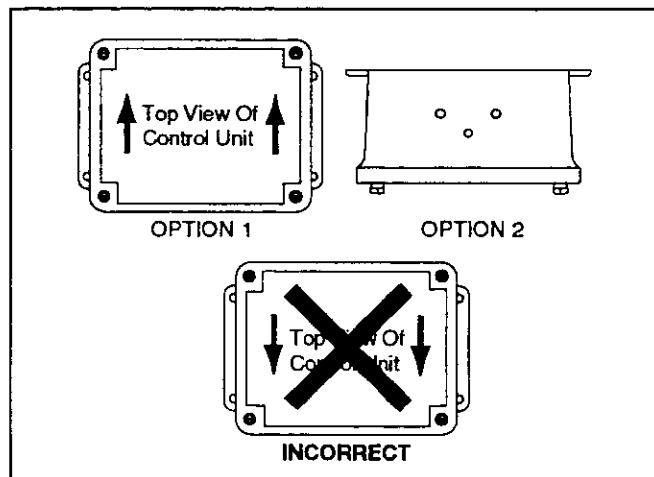

Figure 2 Control Unit Mounting Positions
To install control unit, refer to Figure 2 and follow the outlined procedures.
- If possible, mount the control unit vertically shown in Figure 2 - Option 1. **Never** mount the control unit with the arrow pointing in the downward position or the unit will not operate properly. Horizontal mounting is acceptable, but not preferred (Option 2).